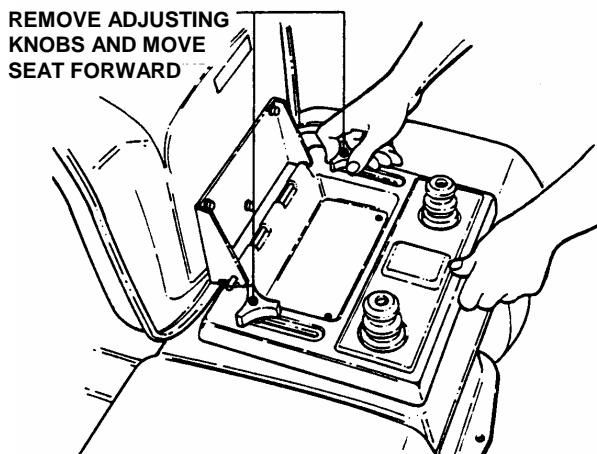

FIGURE 4.36
3. Remove seat assembly and move forward. Use care not to disconnect wires from seat switch. See Figure 4.36.